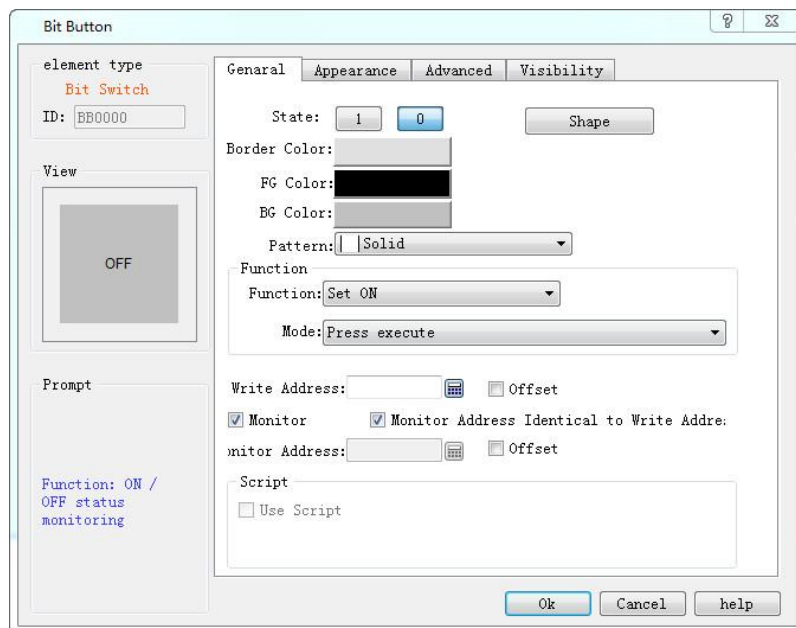

Figure 4-68 Bit Button dialog box
1. Click the Bit Button icon on the toolbar to bring up a dialog box, which is for setting the properties of Bit Button, as shown in Figure 4-68: